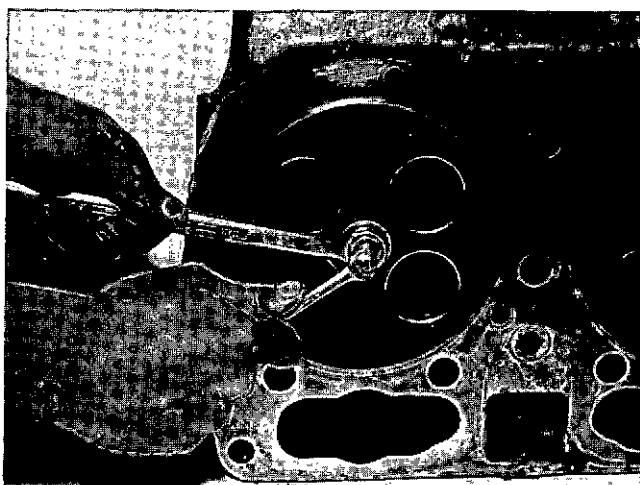

Fig. 2-1-2, V40204. Install injector sleeve holding tool ST-384
2. Tighten sleeve holding tool to 10 to 12 ft-lb [1.3820 to 1.6584 kg m] to seal lower end of injector sleeve, Fig. 2-1-2, or install injectors and secure with capscrew to valve as listed in Group 18.
1. Install Injector Sleeve Holding Tool ST-384 or ST-923, or a scrap injector cup assembly in each injector sleeve. Fig. 2-1-2.